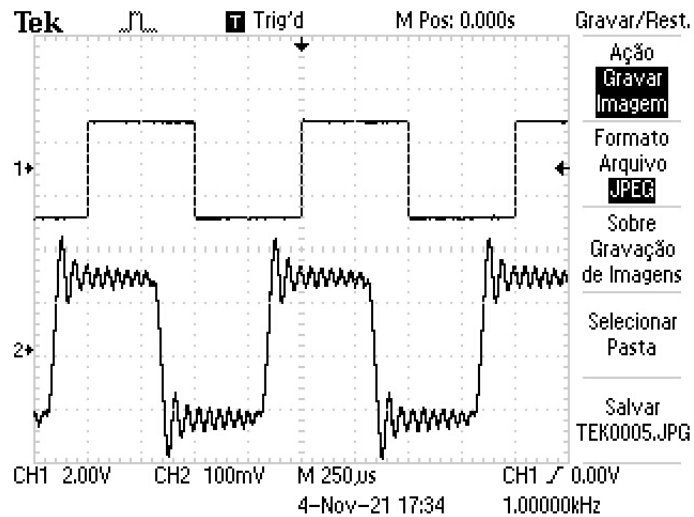

Figure 3: Oscilloscope view of the function generator square wave and analog output of the STM32F746G.
Use the gray mini-jack to connect the analog output of the STM32F746G board to CHAN 2 of the oscilloscope. You should see a figure similar to Figure 3.
**Question 5 [ 2pt / 10 ]:** considering the system setting enforced by the `stm32f7_loop_intr.c` code, and recalling the above Matlab experiment, what type of filter does the STM32F746G board operation correspond to ? By looking at the ripples of the STM32F746G output wave as in Figure 3, what can you say about the filter characteristics that generate those non-symmetric ripples ?